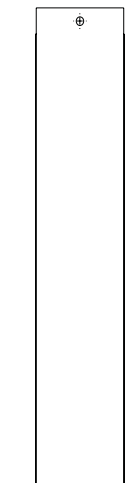

Figure 20
8. The brackets have a perforation at the bottom of each side. Bend them at the perforation. See **Figure 20**.